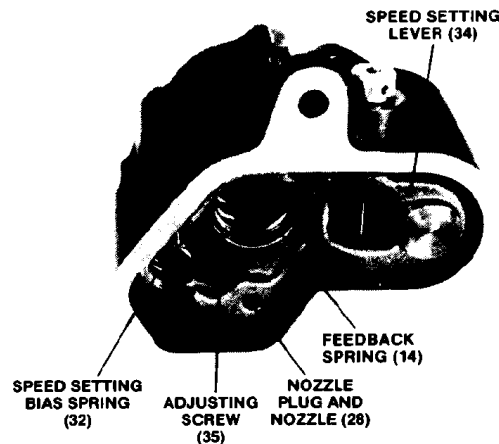

Figure 5-3. Seating Nozzle (28) with the Nozzle Plug
3. Turn spring seat (20) counterclockwise 3 or 5 turns, up through the bottom of plug (12). Put O-ring (13) on plug (12).
4. Install spring (22) on spring seat (20). Place plug (18), with seat (20) and spring (22), in housing (26).
5. Use a 1/8 inch Allen wrench to turn set screw (37) up through the bottom of housing (26). Turn the screw counterclockwise until it is halfway into the housing.
6. Install O-ring (10) on plug (9). Screw the plug into housing (26).
7. Fill spring seat (31) with white petroleum jelly to hold steel ball (30) in place during installation.
8. Use white petroleum jelly to stick spring seat (31) to upper bias spring (32) for installation into housing (26). Raise fever (34) and install spring, spring seat, and ball on set screw (37).
9. Place bearings (33) in speed-setting lever (34). Start pin (11) into housing (26). Place lever (34) in the housing and push pin (11) through bearings (33) and lever (34).
10. Install O-ring (10) on plug (9) and place in housing (26).
11. Install screw (35) through lever (34) into housing (26). If the nozzle has been replaced, it must be reseated. To seat nozzle, press down on the speed-setting lever near the adjusting screw (35) to remove the slack between nozzle (28) and nozzle plug and lightly tap the nozzle plug twice with a blunted center punch. Turn the adjusting screw (35) in until the nozzle plug lightly contacts the nozzle (28), then back it out one full turn. See Figure 5-3 for location of the nozzle plug.